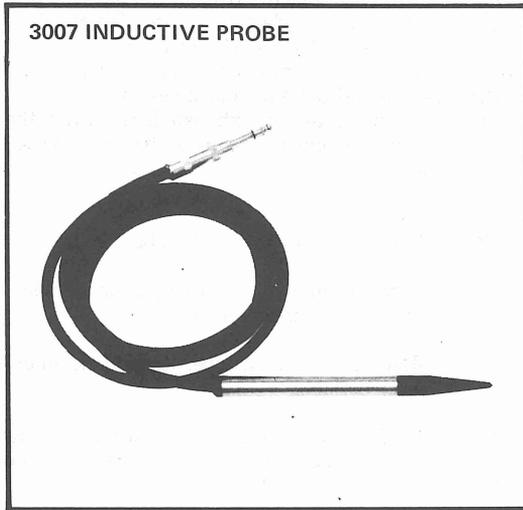

FIGURE 14
- (b) Connect Inductive Probe 3007 (see Figure 14) to receive EXT input jack. Set the RECEIVE mode selector to EXT and probe for conductor as covered in BSP.